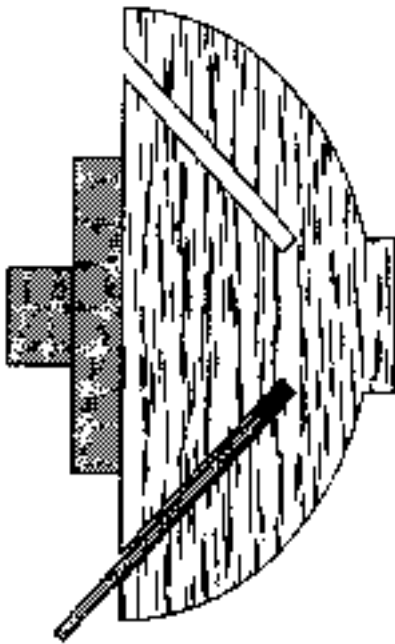

Figure 4. Mount your blank to a faceplate.
Step 1: Mount your turning blank to a Faceplate as shown in Fig. 4. Turn the outside and the *Foot* that will hold your stock for internal turning. Remove most of the *core* of your turning.